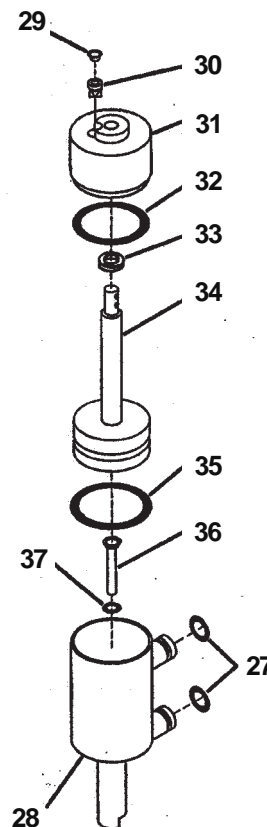

Figure 10. Pump Disassembly Step Four
- H. Remove two cylinder "O"-rings (27) from cylinder body (28). Remove air inlet retainer (29) and air inlet check valve (30) from cylinder top (31). Remove cylinder top (31) from cylinder body (28), remove "O"-ring (32) and piston quad ring (33) from cylinder top (31). Remove piston shaft (34), and "O"-ring (35) from piston shaft (34). Remove mix inlet valve (36) from cylinder body (28), and remove "O"-ring (37) from mix inlet valve (36). (See Fig. 10)